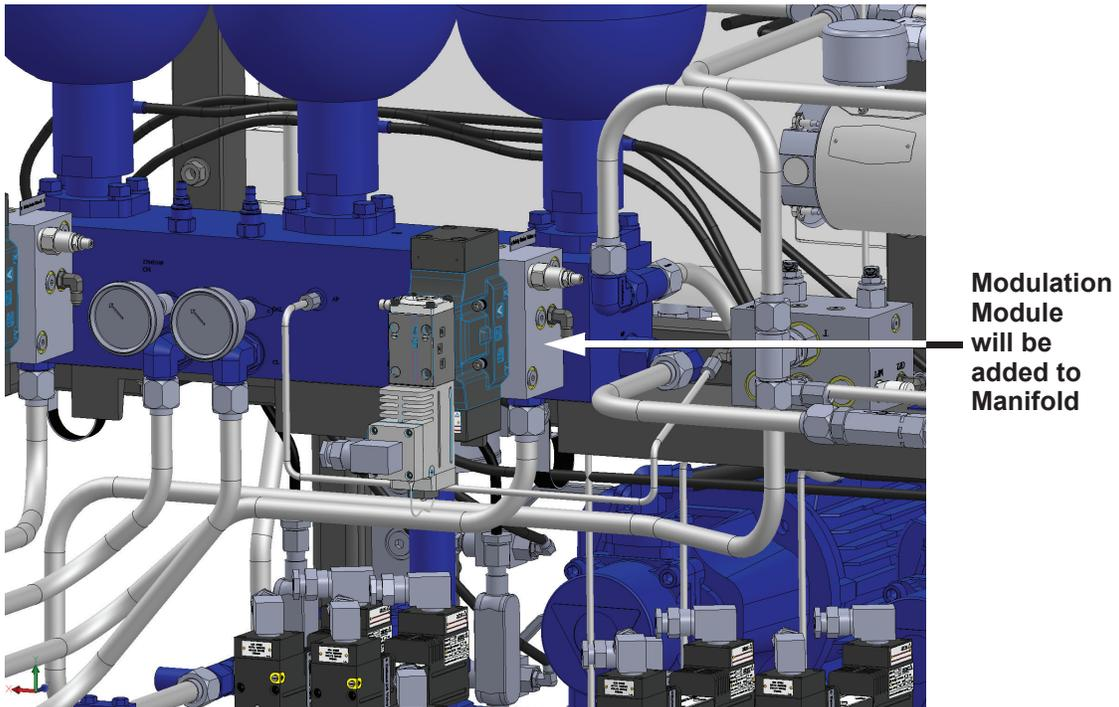

Figure 2: Brake Dampening on the HPU (PACE-X Rigs)
- For PACE-X Rigs: Canrig P/N AY21199 – Brake Dampening Upgrade Kit, Drwks. See Figure 2 on page 2.